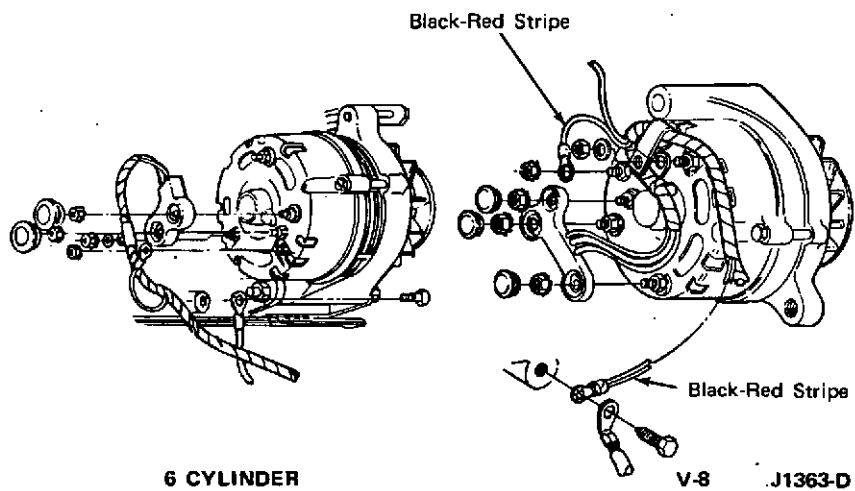

Fig. 13 – Wiring Harness Connections – Typical Except 65-Ampere Alternator
1. Install the alternator wiring harness (Figs. 13 and 14). Position the alternator to the engine, and install the spacer (if used) and the alternator mounting bolt. Tighten the bolt only finger-tight.